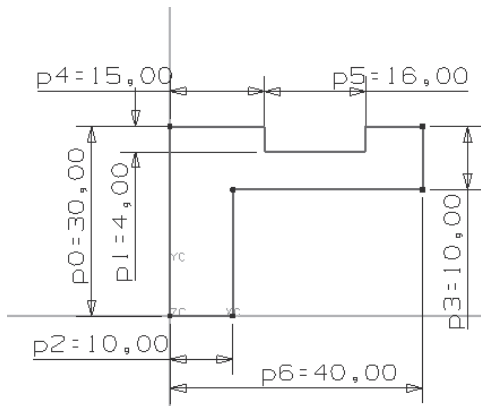

Figure 4-78 Sketch for the base feature
- a. Create the base feature of the model on FIXED_DATUM_PLANE (1), refer to Figures 4-78 and 4-79.
3. Invoke the sketching environment using **FIXED_DATUM_PLANE (1)** and draw the sketch similar to the one shown in Figure 4-78.